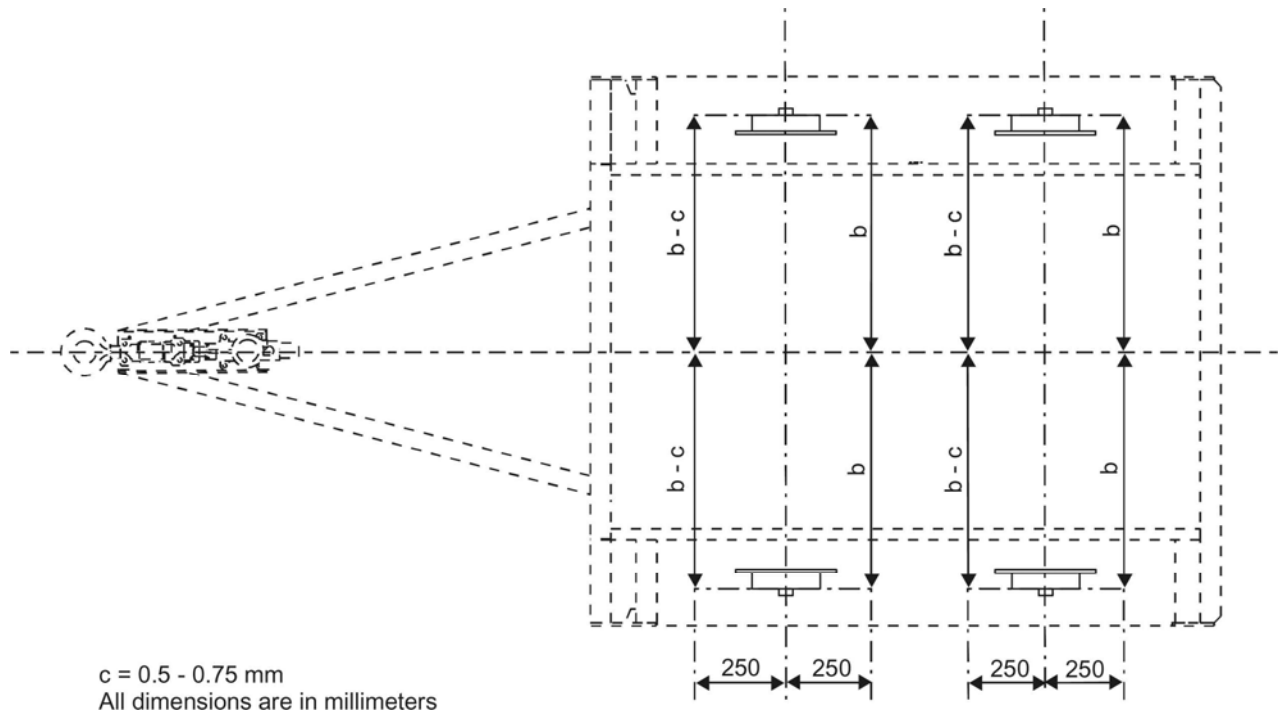
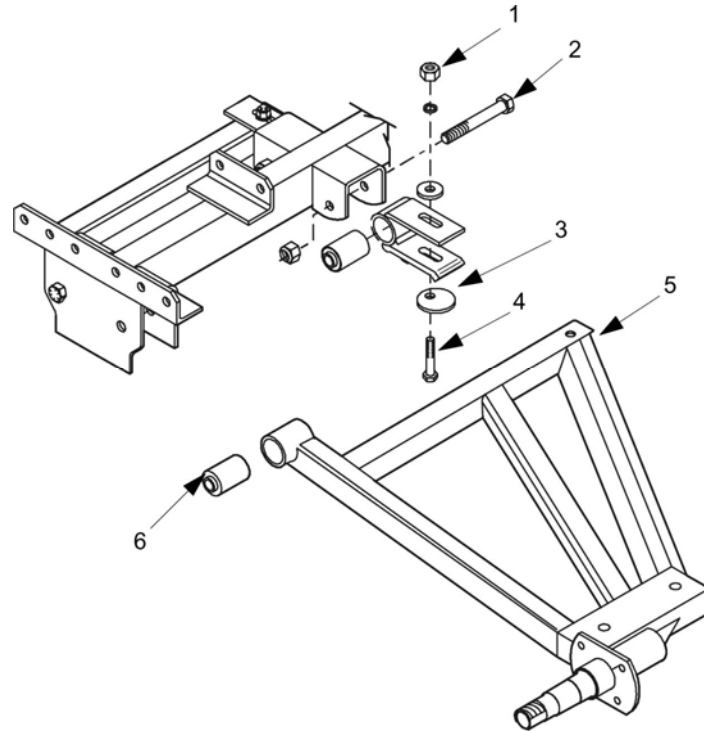

Figure 2 Wheel Alignment Dimensions
Figure 3 Wheel Alignment Adjustment Mechanism
25. Wheel alignment adjustment is possible on this trailer to allow for wheel alignment errors. The front wheels are to be aligned so that they have a slight amount of toe-in, max 1.5 mm (+ 0.5 to + 0.75 mm per wheel). The rear wheels are then aligned parallel to the front wheels, i.e. same toe-in as front wheels. The wheel alignment requirements are illustrated in Figure 2. The situation and equipment on hand will dictate how the measurements will be taken. The adjusting mechanism is illustrated in Figure 3. Adjust the alignment of each wheel as follows:
- d. Take all necessary measurements as shown in Figure 3.
Table 1 Annotation to Figure 3